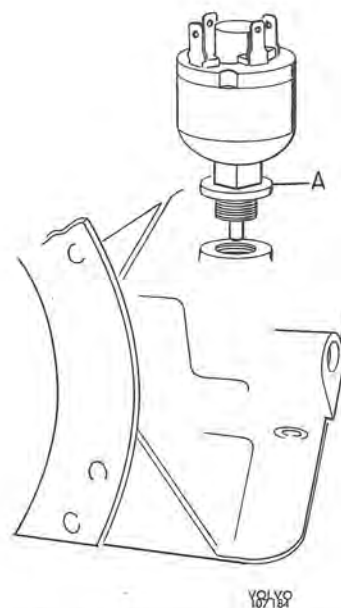

Fig. 4-75. Fitting starter inhibitor switch
2. Fit a new packing (A, Fig. 4-75) onto the contact. Screw in the contact and tighten it with spanner 2975. Connect up the electric cables.